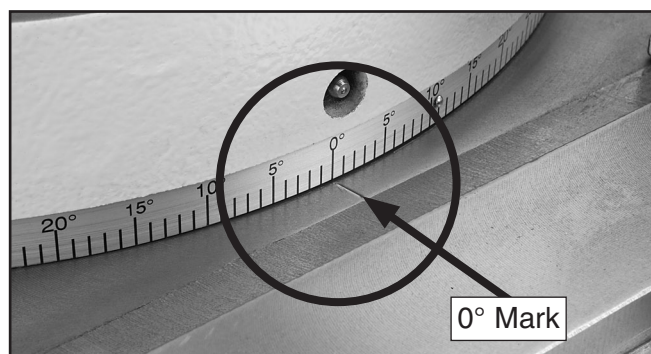

Figure 60. Bow and headstock moved to zero.
3. Raise the bow, move and lock the headstock to 0° (**Figure 60**), then lower the bow.